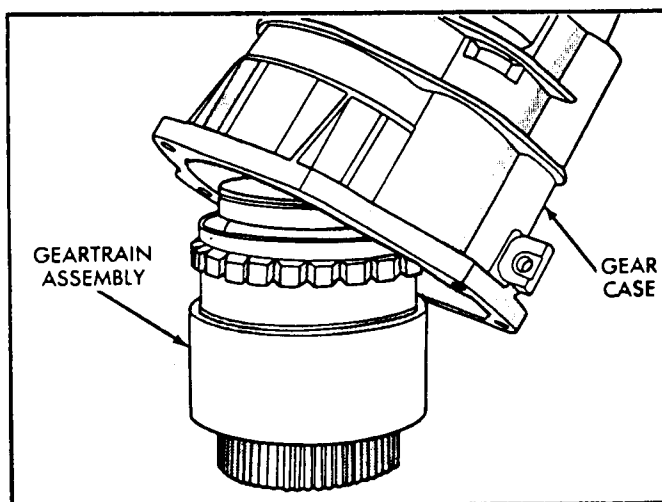

Figure 26
39. Install the overdrive housing onto the geartrain, and start on rear bearing, as shown in Figure 26.